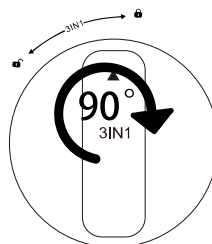

Figure 7
6. Gently press the filter element and rotate it 90° clockwise, ensure the triangle icon on top of filter element point at ☹ icon(As Figure 7).